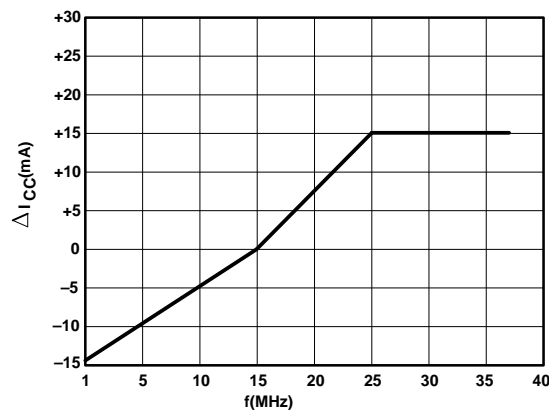

Figure 1. ΔI_{CC} vs Frequency
- Refer to Figure 1, ΔI_{CC} vs Frequency (worst case). (Referenced from 15MHz)